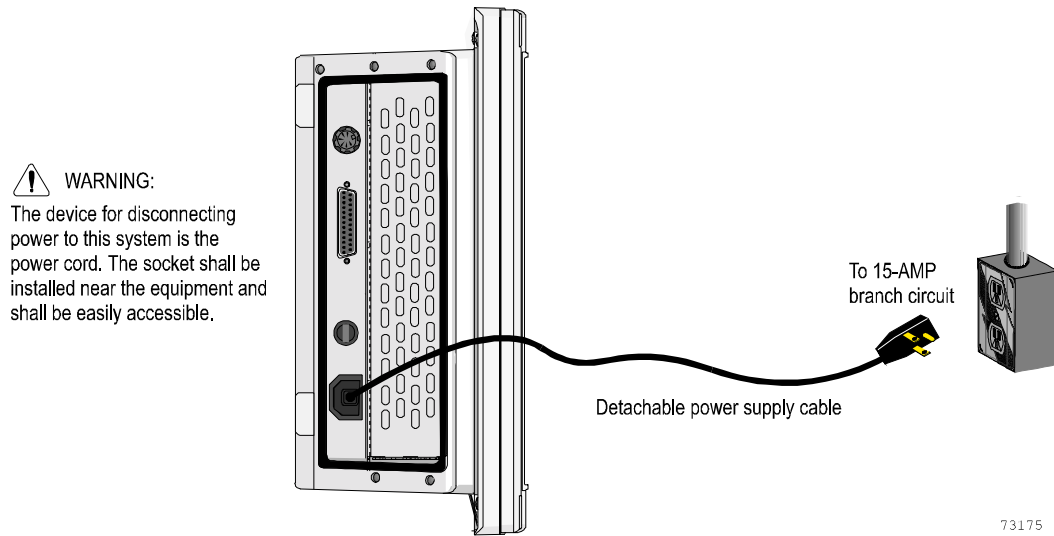

Figure 3: Connecting power: AC power cable with IEC connector
2. Connect the AC power cable with IEC connector to the power socket inside the rear hatch of the terminal (Figure 3).